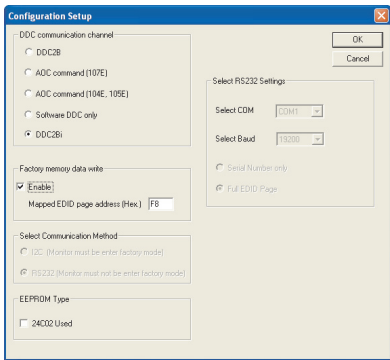

Fig. 35
1. Configuration should be as Fig. 35. And press OK.